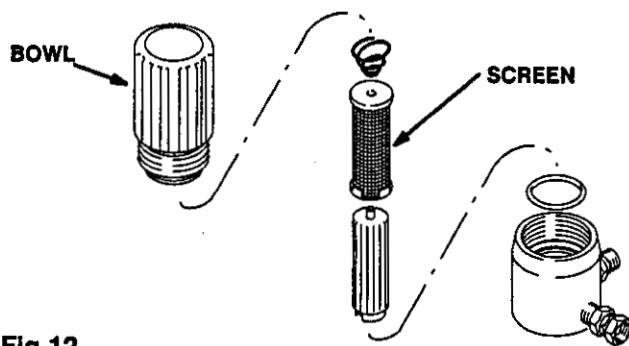

Fig 12
2. Remove the spray tip and clean it separately. Remove the filter screen and then reinstall the bowl, hand tight, without the screen. Clean the screen separately. See Fig 12.